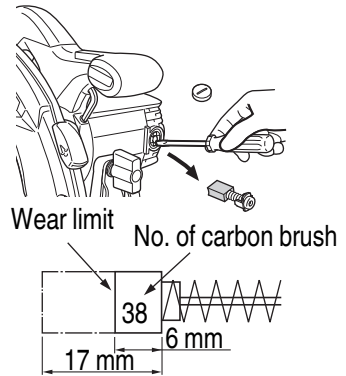

Fig. 16
3. Inspecting the carbon brushes (Fig. 16)